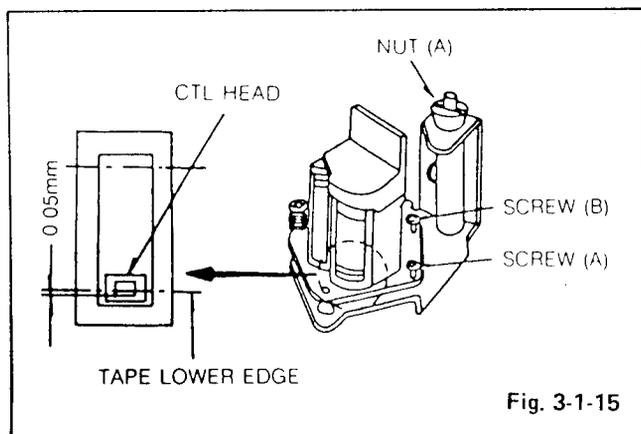

Fig. 3-1-15
d) Adjust nut (A) (in Fig. 3-1-15) with the horizontal adjusting driver so that the tape's lower edge at the RPE head is not higher than the CTL head's lower edge. If it is turned clockwise, the tape height will become higher than the head height, and if turned counterclockwise, it will become lower than the head height.